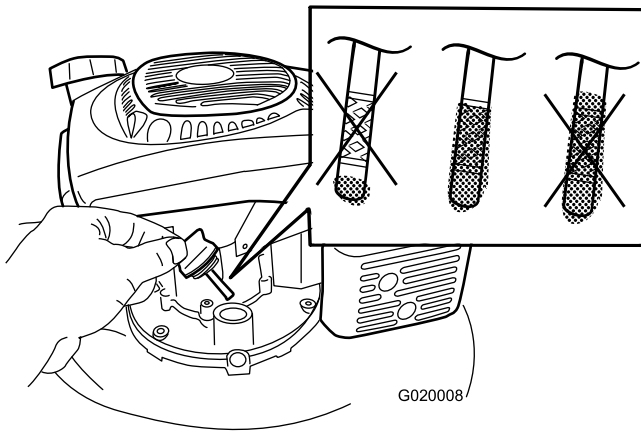

Figure 23
8. Remove the dipstick and read the oil level on the dipstick (Figure 23).